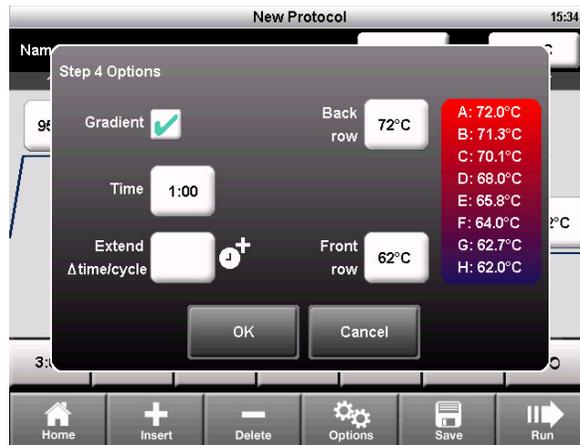

Figure 10. The Step Options window displays the gradient temperatures.
2. Select the **Gradient** checkbox. The temperatures for each row are displayed (Figure 10).